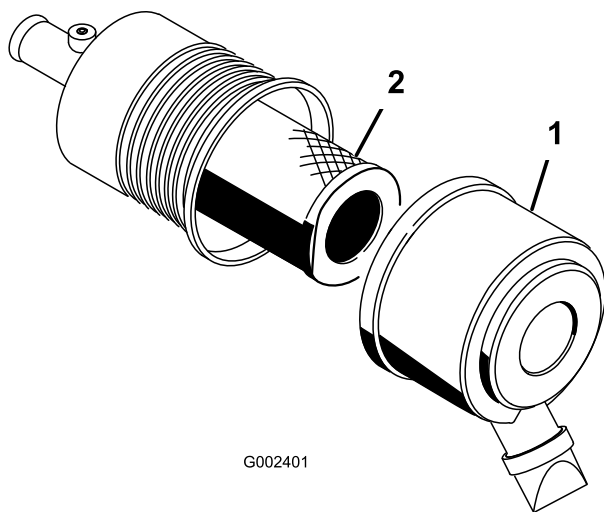

Figure 35
1. Release the latches on the air cleaner and pull the air cleaner cover off of the air cleaner body (Figure 35).
4. Gently slide the primary filter out of the air cleaner body (Figure 35). Avoid knocking the filter into the side of the body.
7. If you are replacing the safety filter, carefully slide the new filter into the filter body (Figure 35).
8. Carefully slide the primary filter over the safety filter (Figure 35). Ensure that it is fully seated by pushing on the outer rim of the filter while installing it.
9. Install the air cleaner cover with the side indicated as UP facing up and secure the latches (Figure 35).